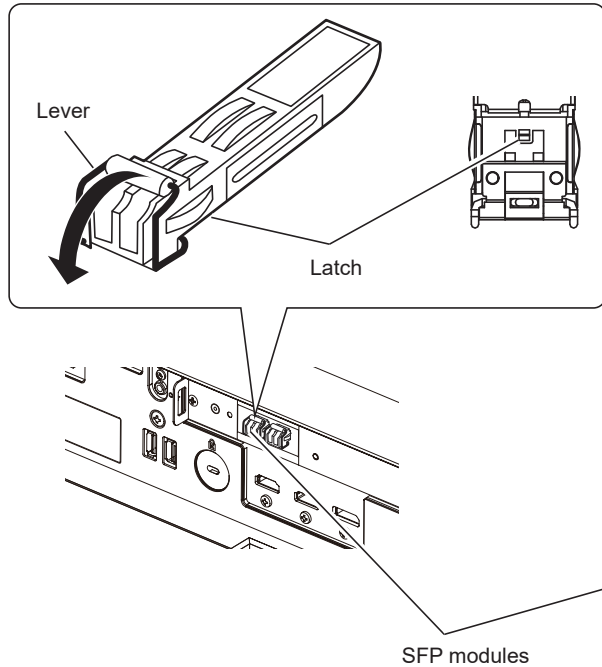

Fig. 1
**2) Release the latch of the SFP module. (Fig. 1)**